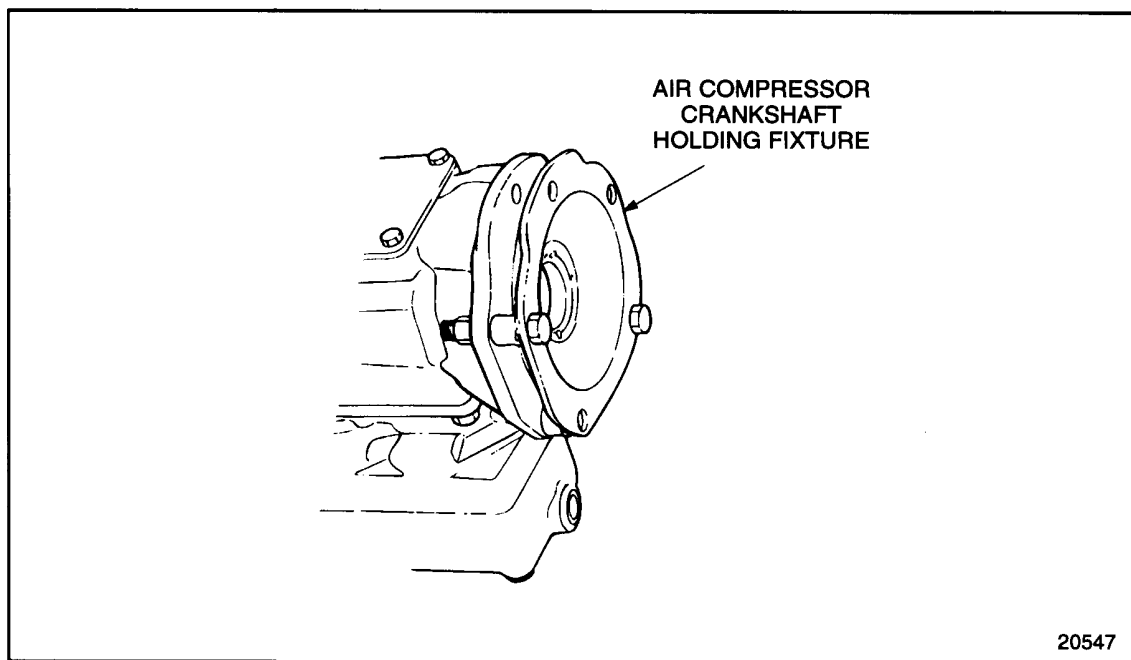

Figure 10-8 Air Compressor Crankshaft Holding Fixture Installation
1. Install the holding fixture to the flange of the air compressor, engaging the coupling with the internal teeth of the drive hub. Install two bolts to secure the fixture to the compressor. See Figure 10-8.
3. Install the drive holding fixture to the flange of the air compressor, engaging the coupling with the internal teeth of the drive hub. Install two bolts to secure the fixture to the compressor. See Figure 10-8.